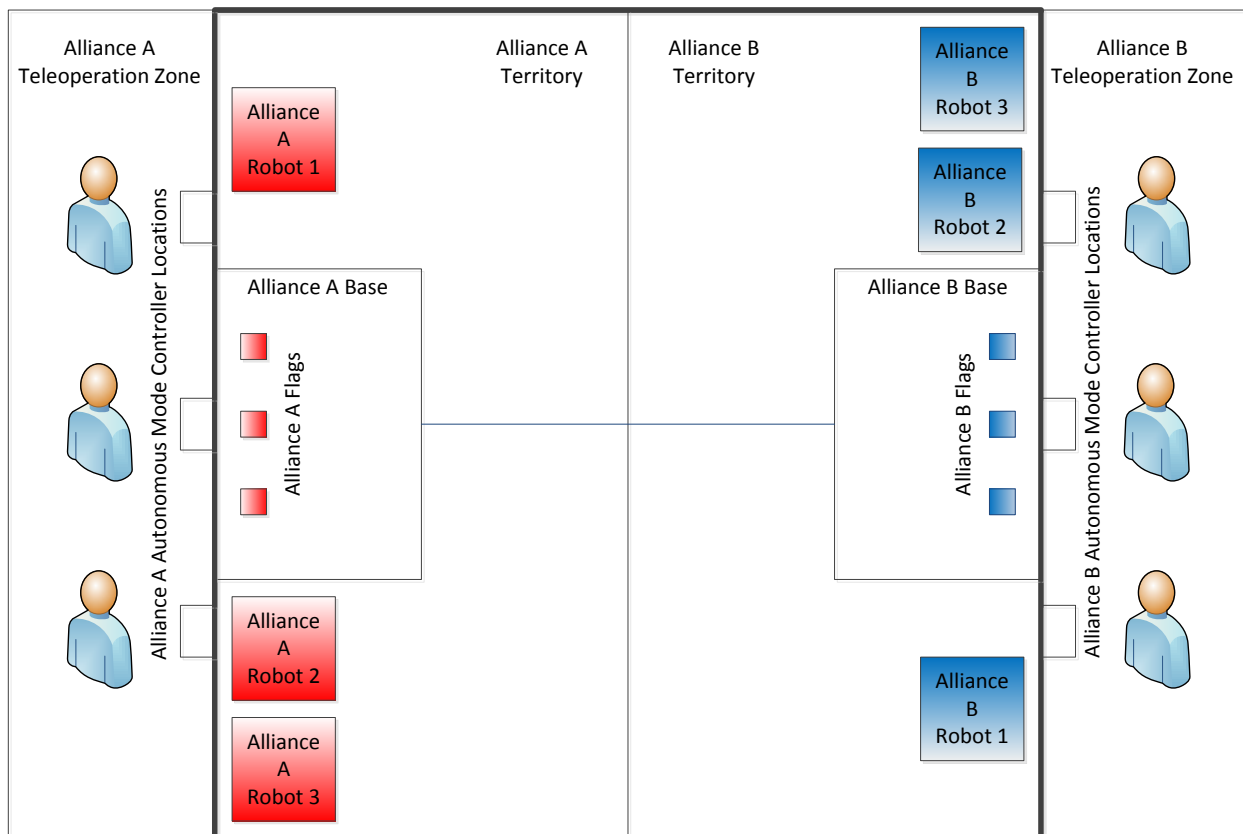

Figure 1: Capture the flag layout.
The mechatronics competition will be a capture the flag game between two alliances of three robots each. The goal is to be the first alliance to retrieve the opponent's true flag among two other false flags and return it to their alliance's base. The game will start in autonomous mode and transition to teleoperated mode. Robots may tag other robots out or in by hitting an easily accessible button which disables and subsequently re-enables them. The starting layout is shown in Figure 1 below. Robots are not allowed to enter their own base unless they are in possession of an enemy flag.
14. The robot game area (refer to Figure 1 above):
- 21. Each robot must be placed in one of the robot starting zones for the given alliance as shown in Figure 1.